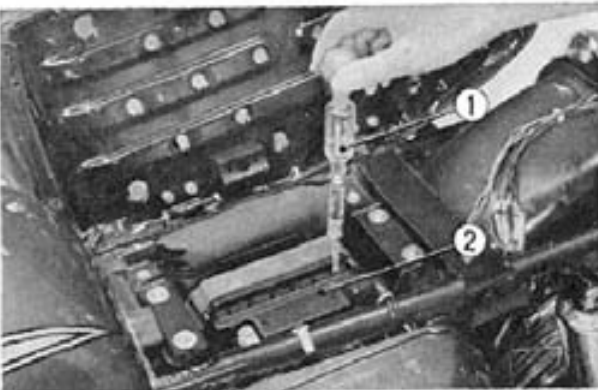

Fig. 19-15 ① Hydrometer
- (2) Remove the battery cell caps and check electrolyte specific gravity in each cell with a hydrometer. (Fig. 19-15)